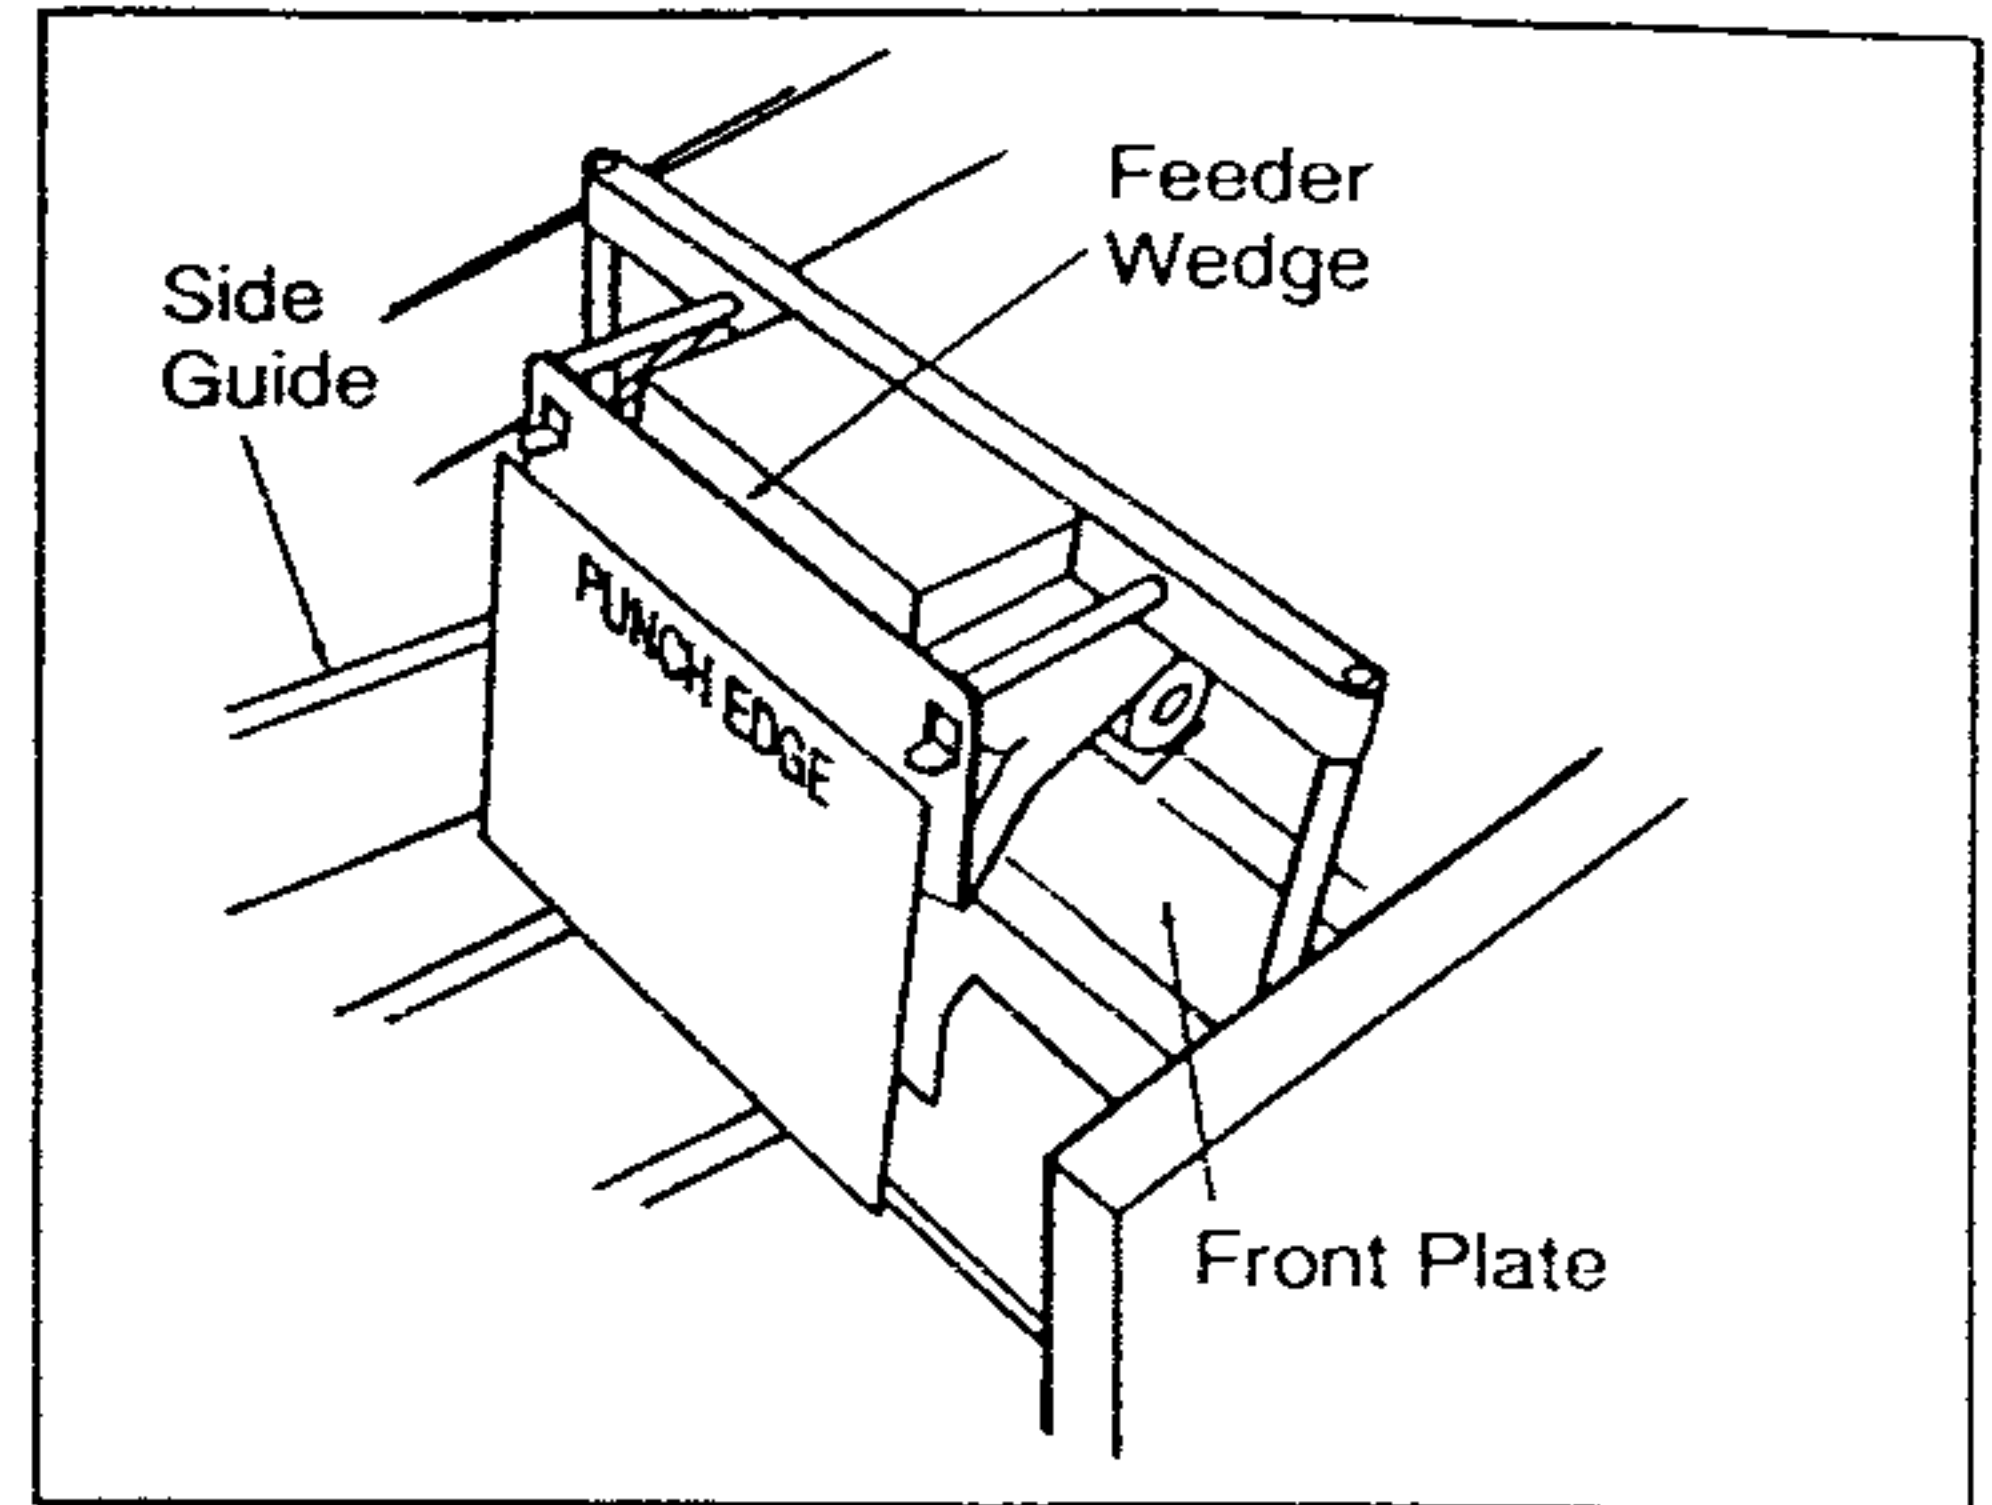

Figure 8
8. Load the first stack of paper into the Feed Hopper with the 11" or 11 1/4" edge to be punched facing upward (see Figure 8). Place the stack so the first sheet is flush against the front plate and the complete stack is flush with the side guide as shown.